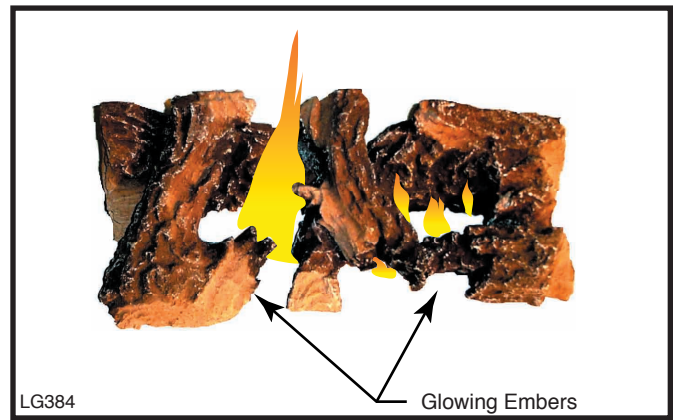

Fig. 48 Correct burner flame appearance for 33LDVR.
5. Place ember material on top of burner. Scatter the ember material over the tiles on the front area of the burner housing. (Fig. 48) Do not pack the ember material. Separate it when unpacked and keep it in a fluffy and loose condition for a more realistic ember effect.